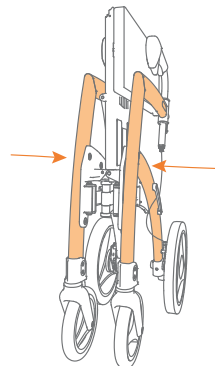

Figure 16: Push the frame further inside.
- e. Push the sides of the frame towards each other until the rollator is completely folded (**Figure 16**).